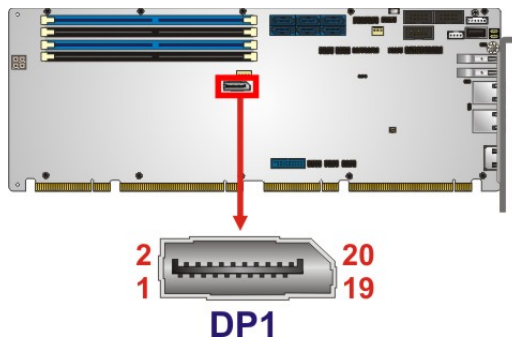

Figure 3-8: DisplayPort Connector Location
- CN Location:** See **Figure 3-8**